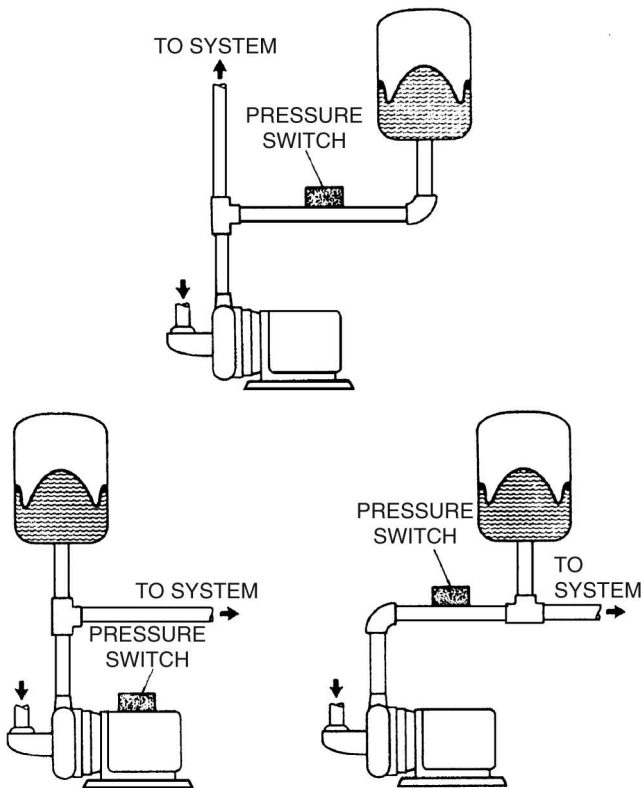

Fig. 23-7 Typical installation of a single tank.
- In a precharged tank, a flexible diaphragm or bladder separates the air and water areas of the tank. The air chamber is precharged by means of a tire valve with pressure of 2 pounds per square foot less than the cutout pressure of the pump. Because this is not in contact with the water, it cannot be absorbed by the water. Therefore, the original charge of air is never lost (see Fig. 23-7).